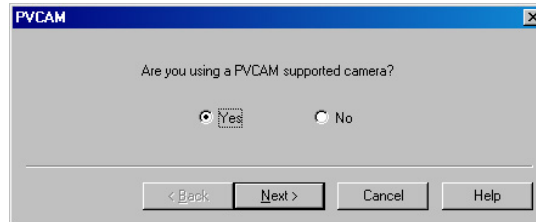

Figure 61. Hardware Wizard: PVCAM dialog box
8. When the PVCAM dialog box (Figure 61) is displayed, click in the **Yes** radio button, click on **Next** and continue through the wizard. After the wizard is finished, the **Controller/Camera** tab card will be displayed with the **Use PVCAM** checkbox selected. You should now be able to acquire data.